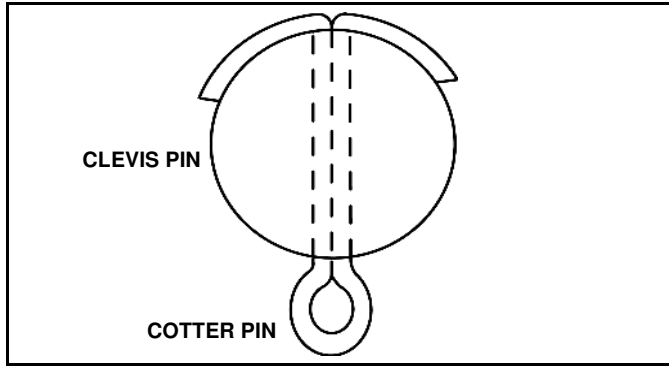
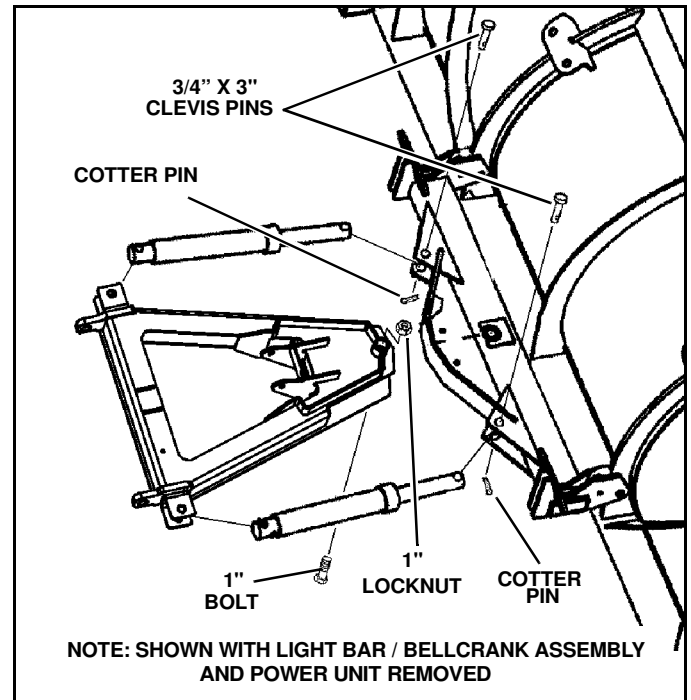
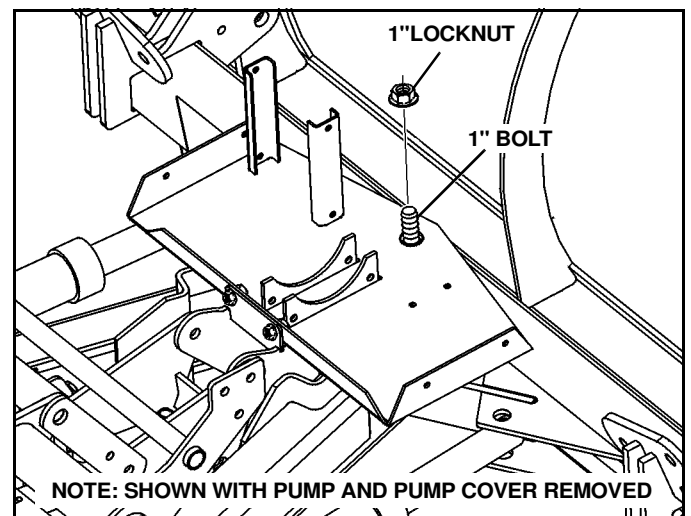

Figure 1-6
Figure 1-18
Figure 1-19
NOTE: Make sure cotter pin is properly bent or pin may work loose (See Figure 1-6)
4. Remove 1" locknut and bolt. Slide swing frame into A-frame. Replace 1" bolt and locknut and tighten. (See Figure 1-18 and Figure 1-19.)
6. Remove cotter pins and 3/4" clevis pins from rod end of cylinders. Reconnect the power and control. Extend cylinders using plow control to align holes in cylinder rod and swing frame. Insert 3/4" clevis pins and secure with cotter pins. (See Figure 1-18) Bend cotter pin as shown in Figure 1-6 to prevent it from working loose.